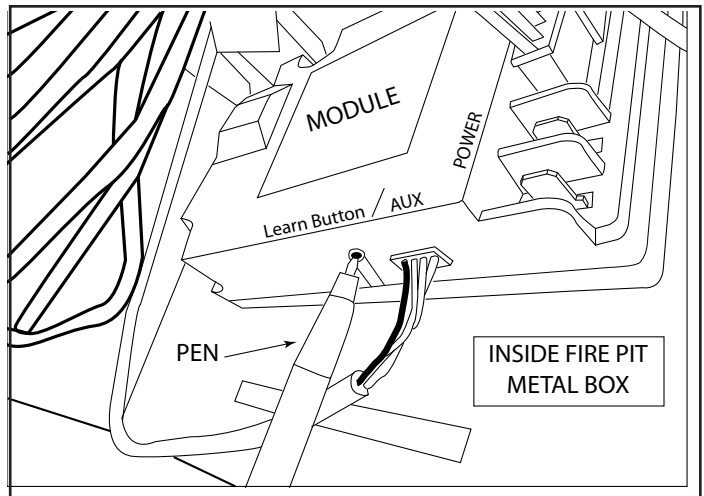

Fig. 11 Learn button location
3. Once the Learn button is located, press and release the button once. You will hear a beep indicating that the module is ready to receive a transmitter code (See Fig. 11)